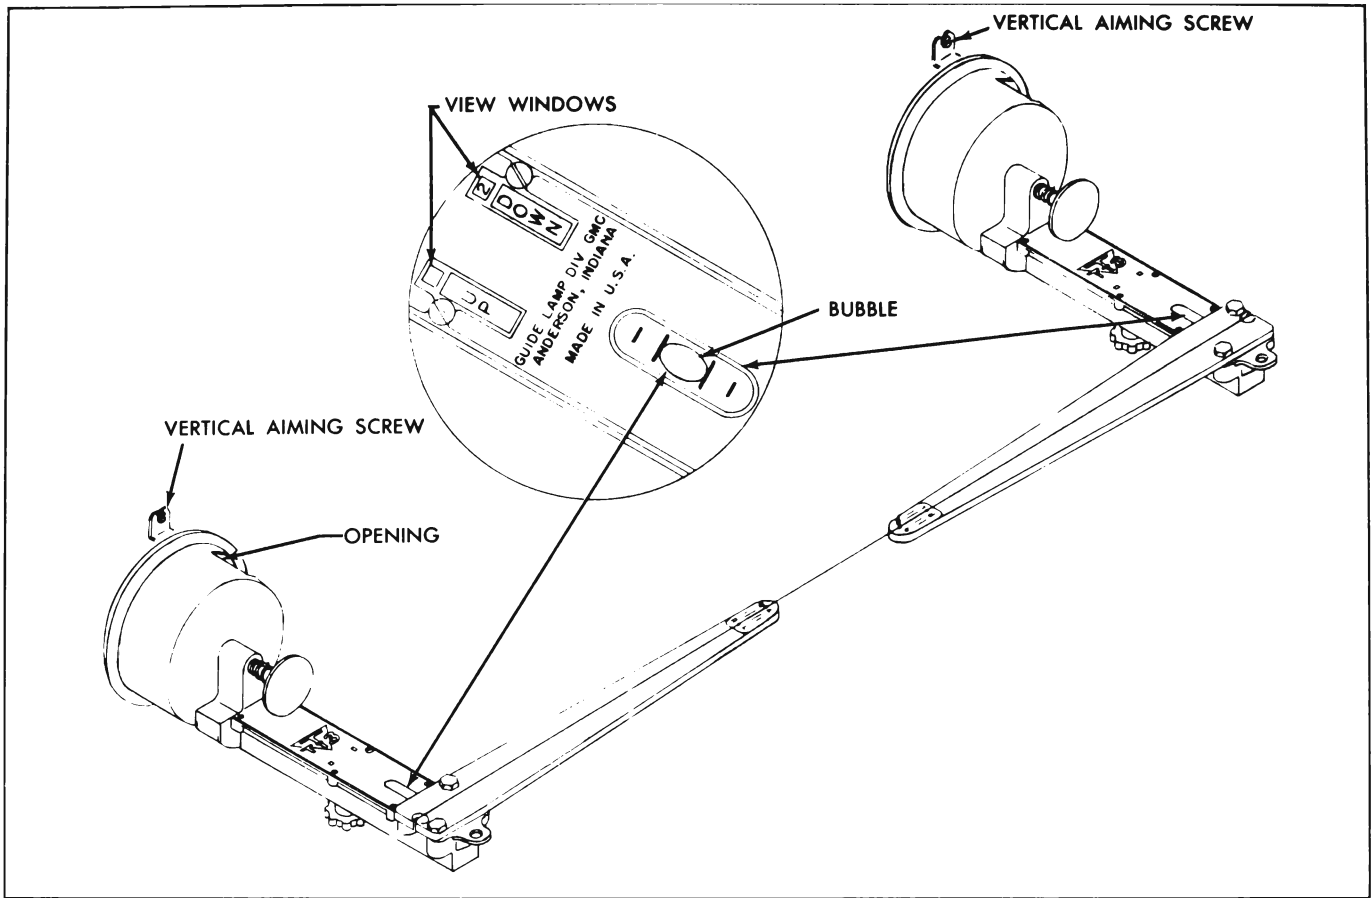

Figure 10-53—Adjusting Vertical Aim
NOTE: For aiming both inboard (type "1") and outboard (type "2") units, loosen level calibrating knob and slide knob rearward or forward until numeral "2" appears in DOWN view window. See Figure 10-53. Tighten knob of the aimer. All future checking and adjusting of headlamp aim will be done with aimer calibrated with numeral "2" in DOWN view window.
1. The bubble should be within the two outside lines of the level on the aimer. If bubble in level does not fall within these limits it is necessary to adjust vertical aim by turning vertical aiming screw counterclockwise until the bubble in level is at the end of vial toward headlamp unit. Then turn screw clockwise until bubble is centered in the level. See Figure 10-53.